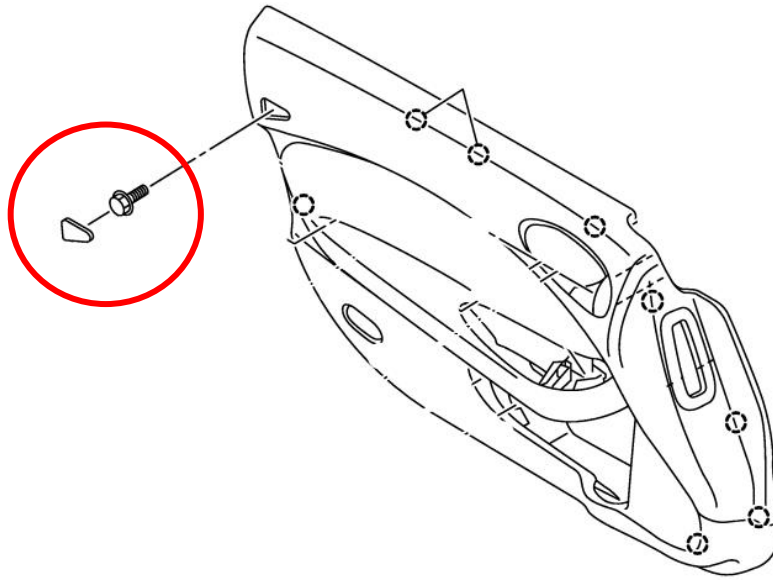

Figure 38
NOTE: Convertible Models will have (1) one extra bolt behind the Airbag Panel that must be removed as well. *Figure 38.*